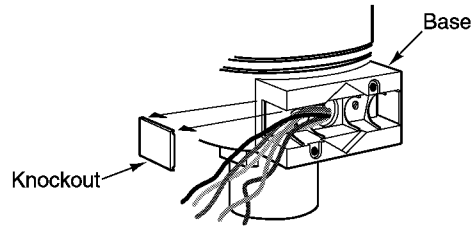

Figure-6 Removal of Knockout on Actuator Base.
2. Remove the knockout, using channel lock pliers, on the selected side of the actuator. Refer to Figure-6.
1. Remove the knockout from the cover plate supplied with the actuator. Refer to Figure-6.